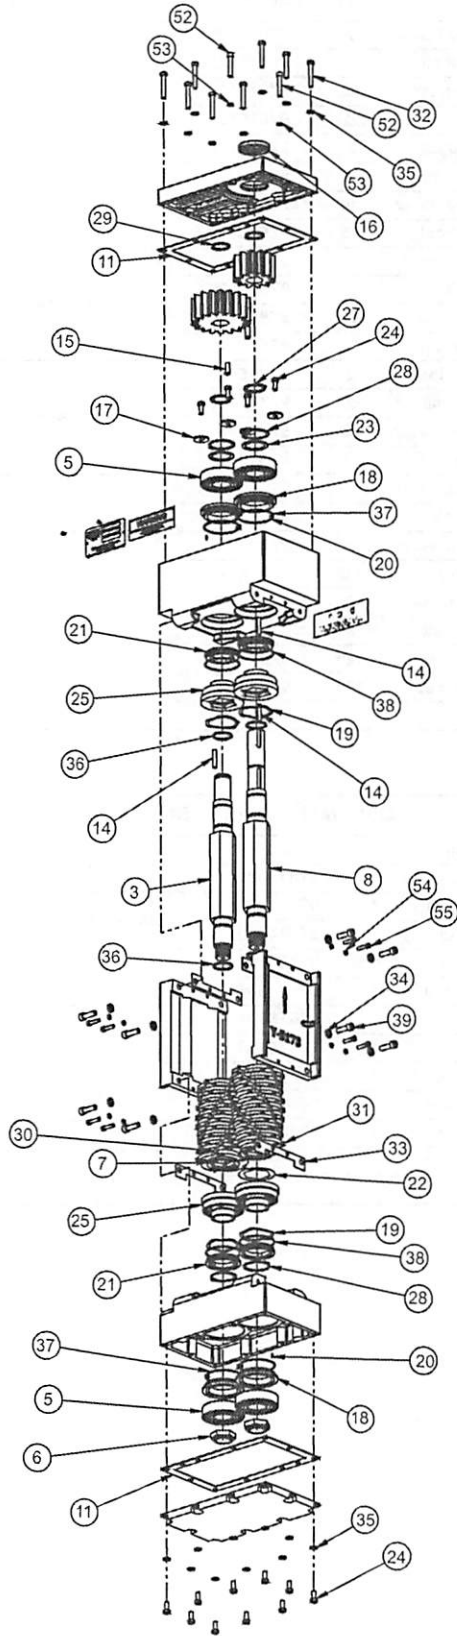
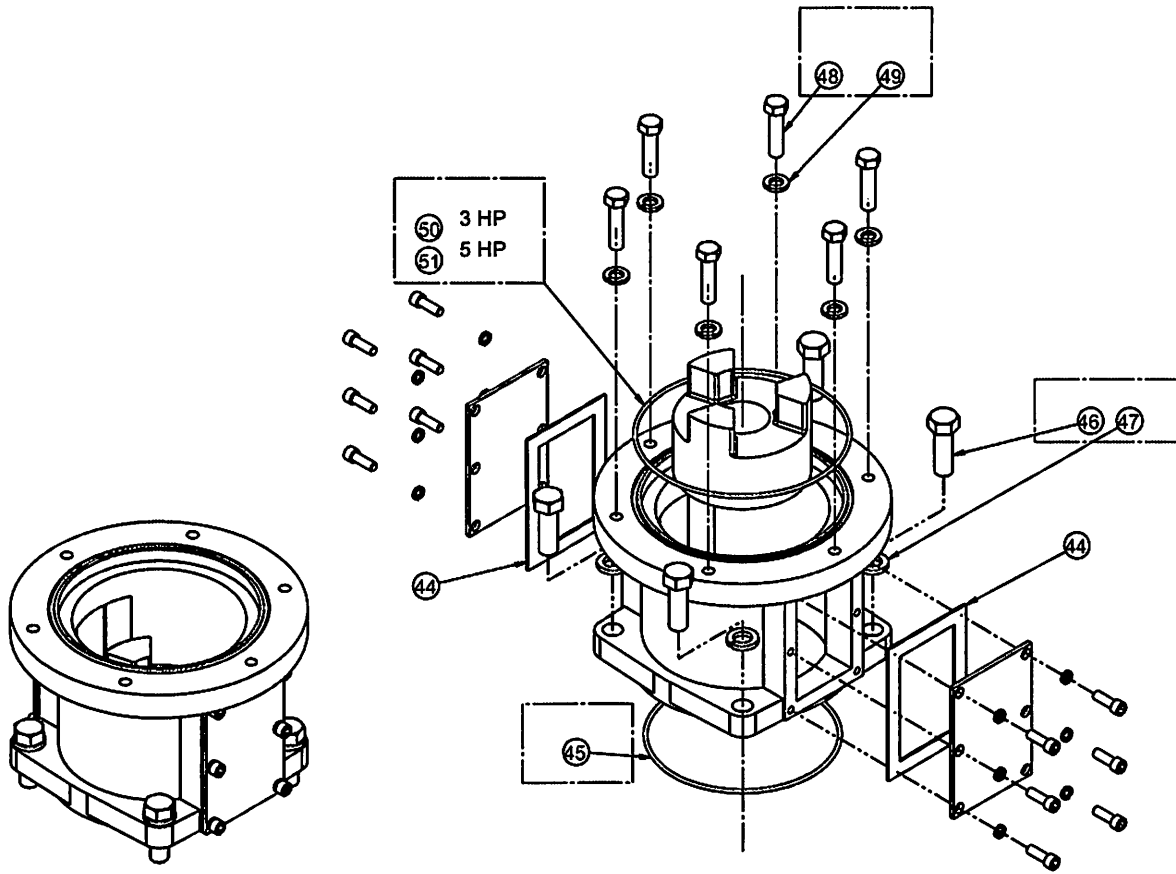

Fig. 1 View A
Fig. 2 View B
7.2.3 Stage 1 rebuild kit no. - 98189861 Fig. 1 and Fig. 2
7.2.4 Stage 2 rebuild kit Fig. 1
7.2.5 Stage 3 rebuild kit Fig. 1